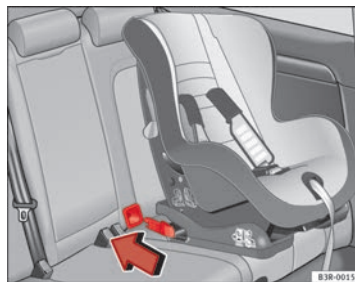

Fig. 33 The ISOFIX child seat anchors slide along the fitted plastic guides until secured in the vehicle's ISOFIX anchorages
- Slide the child seat anchorages along the plastic guides until secured in the vehicle's ISOFIX rings (when correctly closed, you will hear a “click”). The seat should also have a visual indicator to confirm it is correctly secured ⇒ **fig. 33**.